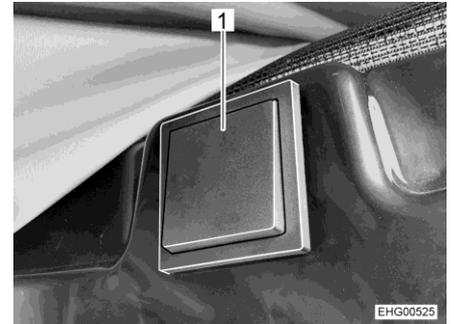

Fig. 37 Push button for electrical release
The push button for the electrical release (Fig. 37) is located on the right-hand side in the area above the sliding door.
- Press and hold the push button (Fig. 37,1) for least 2 seconds.